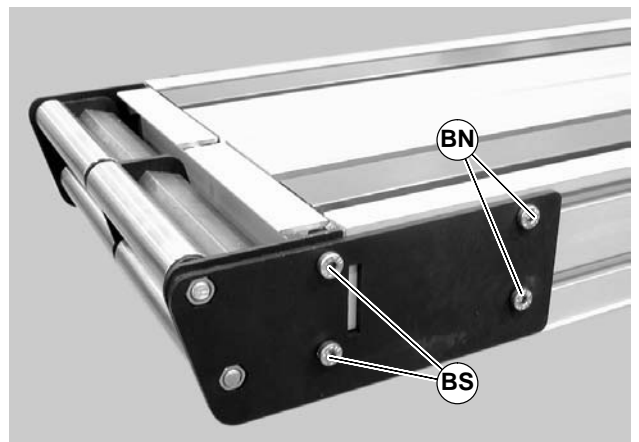

Figure 54
- On one side of conveyor, loosen the two (2) back fastening screws (BN of Figure 54), and remove the two (2) front fastening screws (BS).